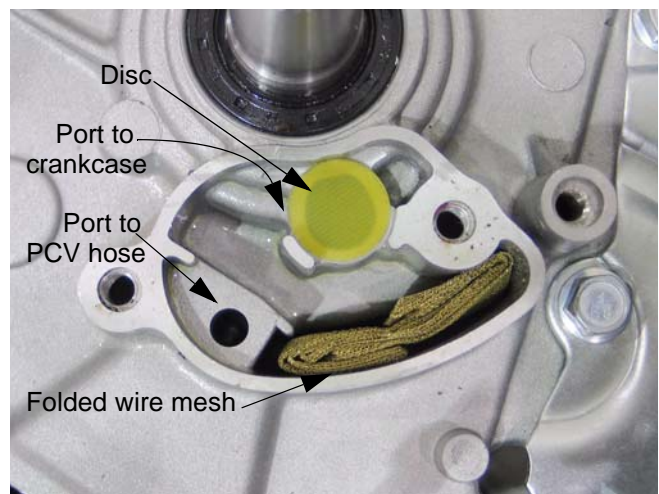

Figure 3.8
9. The folded wire mesh in the chamber also helps separate the oil from the air. See Figure 3.8.